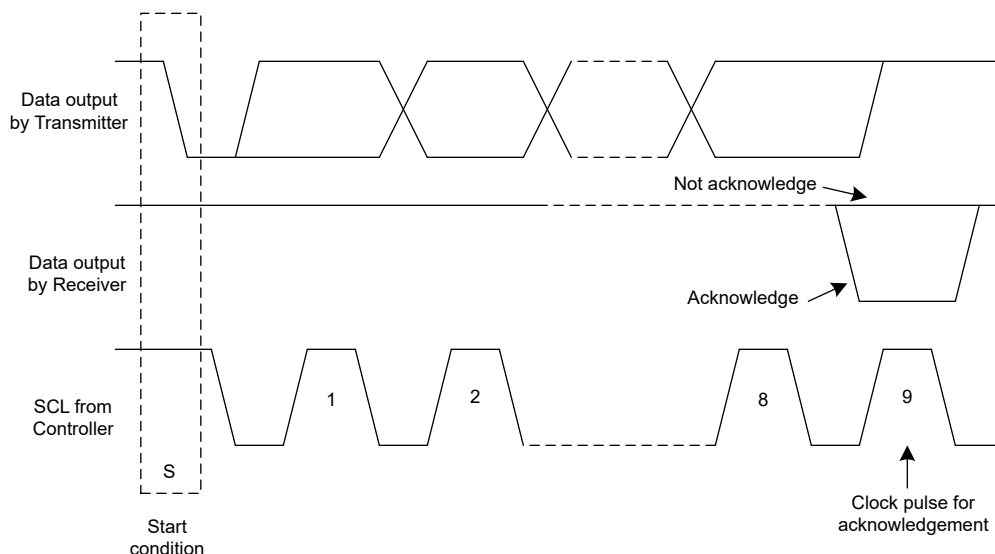
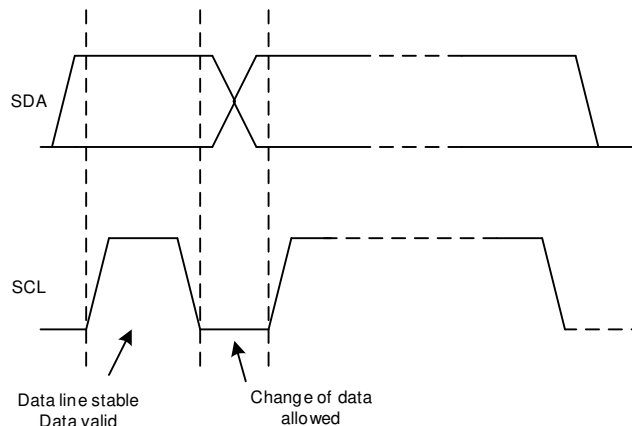

Figure 8-4. Acknowledge and Not Acknowledge on the I²C Bus
Figure 8-6. Bit Transfer on the I²C Bus
Other than specific timing signals, the I²C interface works with serial bytes. At the end of each byte, a ninth clock cycle generates and detects an acknowledge signal. Acknowledge is when the SDA line is pulled low during the high period of the ninth clock cycle. A not-acknowledge is when the SDA line is left high during the high period of the ninth clock cycle as shown in Figure 8-4.
2. The controller then generates the SCL pulses, and transmits the 7-bit address and the read/write direction bit (R/W) on the SDA line. During all transmissions, the controller makes sure that data are valid. Figure 8-6 shows that a valid data condition requires the SDA line to be stable during the entire high period of the clock pulse. All devices recognize the address sent by the controller and compare the address to the internal fixed addresses. Only the target device with a matching address generates an acknowledge by pulling the SDA line low during the entire high period of the ninth SCL cycle; see also Figure 8-4 by pulling the SDA line low during the entire high period of the ninth SCL cycle. Upon detecting this acknowledge, the controller knows the communication link with a target has been established.